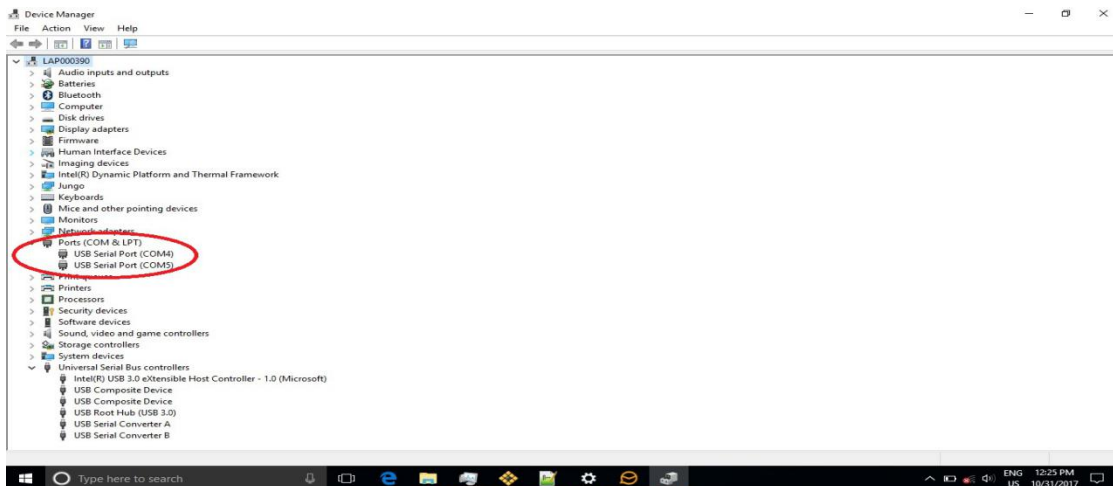

Figure 21. Device Manager
3. The device manager will recognize two COM ports, as shown in Figure 21.